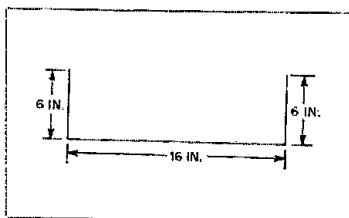

Fig. 3 — The dimensions desired in the finished product.
Fig. 3 — Details for building a homemade top-loading coil and capacitance hat. The completed resonator should be protected against the weather to prevent detuning and deterioration.
1) First, calculate the total outer dimensions of the finished channel as shown in Fig. 3. The finished dimension totals 28 inches.
Fig. 3 — This is a cross-sectional drawing of a typical power transformer. The cross-sectional area referred to in Fig. 4 is determined by multiplying the tongue width by the height of the center core.
(38 mm) wide. To determine the cross-sectional area, all that is needed is the height of the stack (Fig. 3). Once you have determined the cross-sectional area by multiplying the height by the width of the "E" tongue, refer to the graph in Fig. 4 to determine the power-handling capability. If the transformer is an odd size, we can estimate its capability by using the rule of thumb that it will handle about 40 W for each pound (about 88 W per kg) of iron in the core.